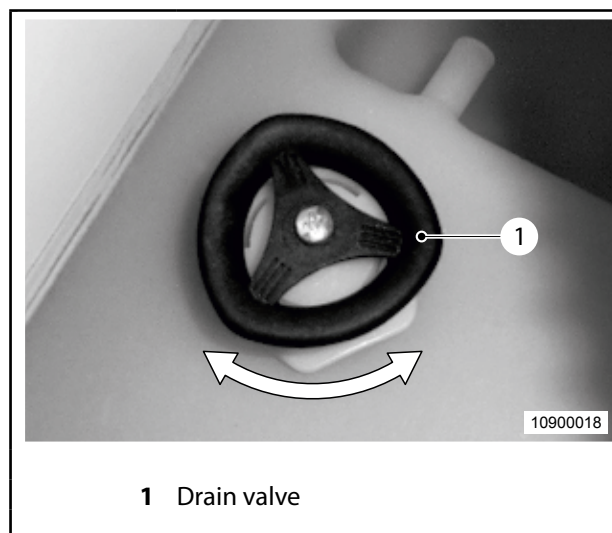

Fig. 55 Emptying the fresh water tank
3. Turn drain valve (Fig. 55, item 1) clockwise to the stop.